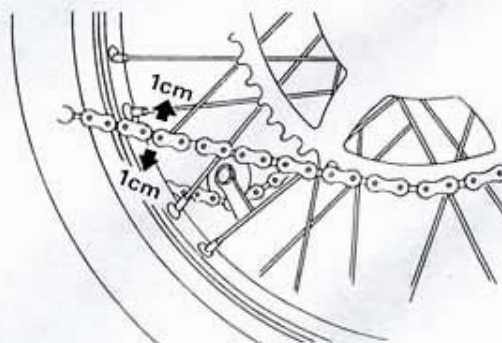

Fig. 5
- The wheel should turn freely with no roughness or tight spots (arrow - 1cm, fig. 5).